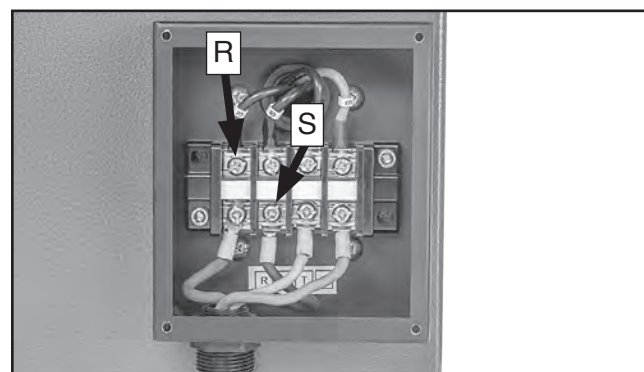

Figure 35. Location of **R** and **S** terminals.
2. Open junction box and swap wires connected to **R** and **S** terminals (see **Figure 35**).